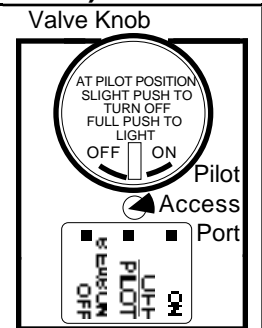

Figure 10
1. Slightly push in Valve Knob and turn to "SEASON OFF". Figure 10
3. Slightly push in Valve Knob and turn to "PILOT/OFF". Figure 10
1. To adjust, insert a narrow long stem screw driver through **Pilot Access Port** (see figure 10) to turn pilot adjustment screw .